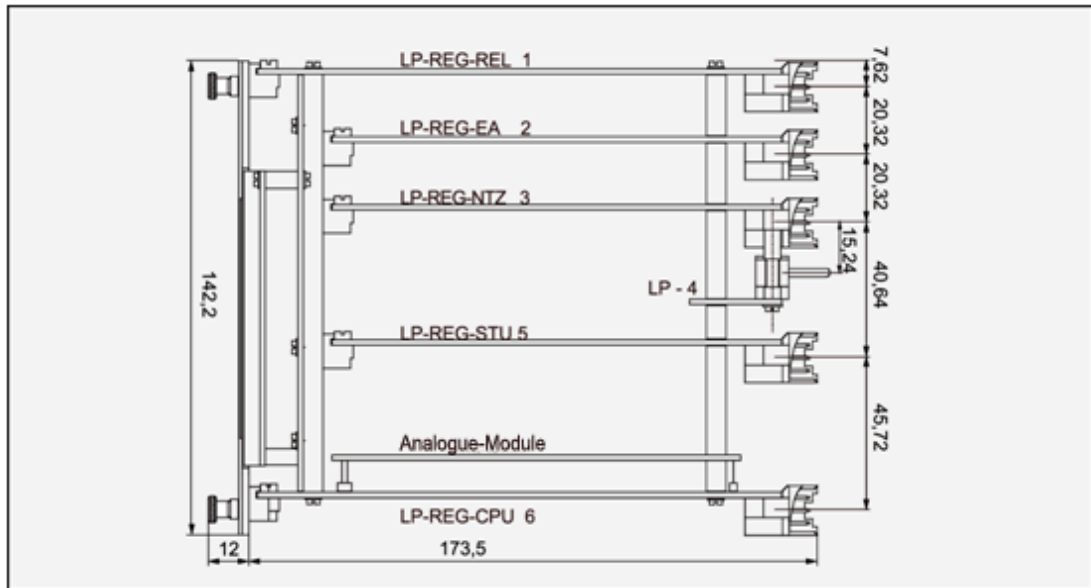

Figure 10
-  Connect the analogue module to the REG-CPU CPU circuit board. Please refer to Figures 10 and 11 for this.